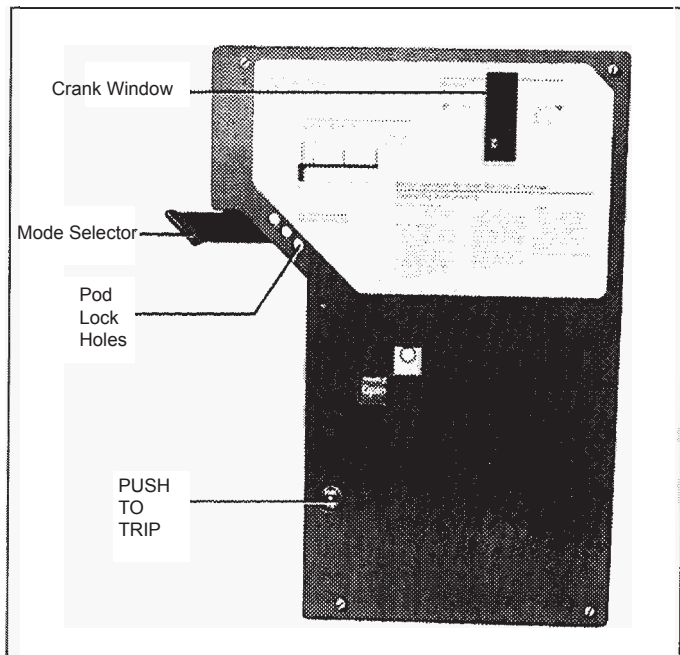

Fig. 3-1. Motor Operator Features
- 3.7. Move the MODE SELECTOR (see Fig. 3-1) to select the ELECTRICAL OPERATION mode.